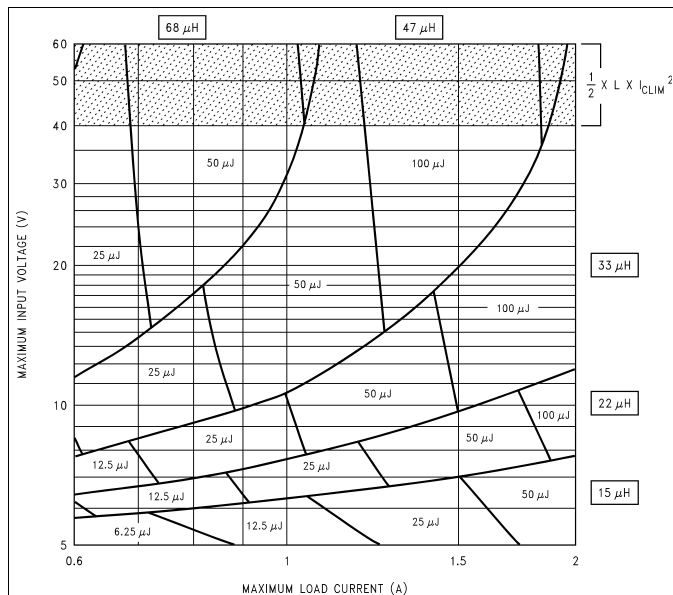
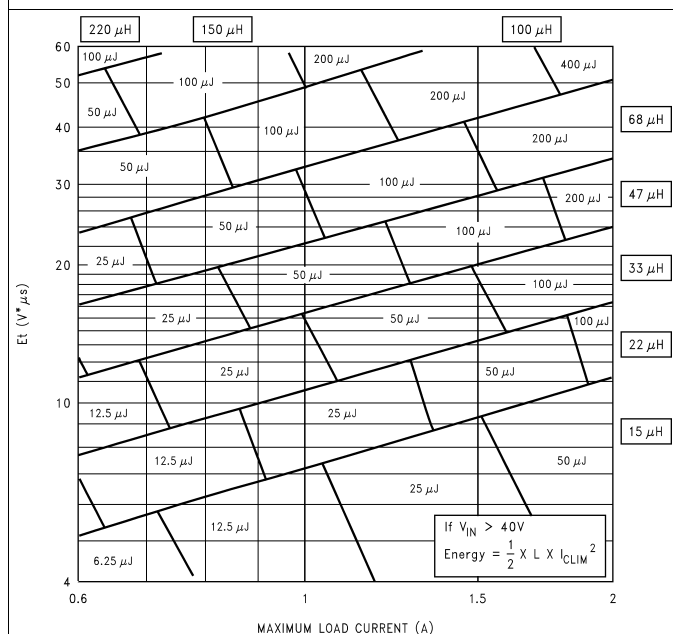

Figure 33. LM2593HV 3.3-V
Figure 35. LM2593HV Adjustable Voltage
See application note *AN-1197 Selecting Inductors for Buck Converters (SNVA038)* for detailed information on inductor selection. For a quick-start, see the nomographs provided in Figure 33 to Figure 35. To widen the choices to a more general selection of available inductors, the nomographs provide the required inductance and also the energy in the core expressed in microjoules ( $\mu\text{J}$ ), as an alternative to just prescribing custom parts. The following points must be highlighted:
5. Figure 35 shows the inductor selection curves for the adjustable version. The y-axis is  $Et$ , in  $\text{V}\mu\text{s}$ . It is the applied volts across the inductor during the ON time of the switch ( $V_{\text{IN}} - V_{\text{SAT}} - V_{\text{OUT}}$ ) multiplied by the time for which the switch is on in  $\mu\text{s}$ . See Example 3.
- Because input voltage is less than 40 V, a first pass inductor selection is based upon inductance and rated maximum load current. Choose an inductor with the inductance value indicated by the nomograph Figure 35 and a current rating equal to the maximum load. But first calculate  $E_t$  for the given application. The duty cycle is Equation 5.
- Therefore, looking at Figure 33, quick-select a 47- $\mu\text{H}$ , 2-A inductor (designed for 150-kHz operation) for this application.
- Confirm that it is rated to handle 200  $\mu\text{J}$  (see Figure 35) by the procedure shown in *AN-1197 Selecting Inductors for Buck Converters (SNVA038)* and that the losses are acceptable. (If the DC input voltage had been greater than 40 V, consider  $e_{\text{CLIM}}$  as in Example 2).